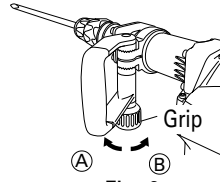

Fig. 6
- (1) Loosen the handle by turning the grip in the direction of **(A)** as shown in Fig. 6.